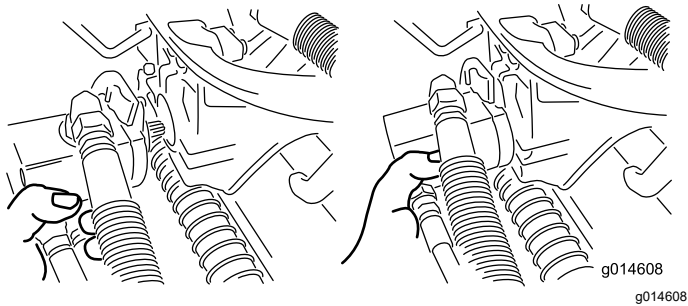

Figure 52
3. Move the motor to the storage location on the front of the suspension arm (Figure 52).